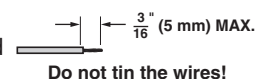

**Figure 1.** AXP 50 C AT Rear Panel
**LAN** — Using a standard Ethernet cable, connect to a network via one of the four AT ports (see figure 1 D on page 1). The control device must be connected to the same network. One of the four Ethernet ports can be dedicated as a control connection. Communication between the AXP 50 C AT and a controlling device or software such as DataViewer is via a TCP socket using port 4333. Dante controller displays the current IP address.